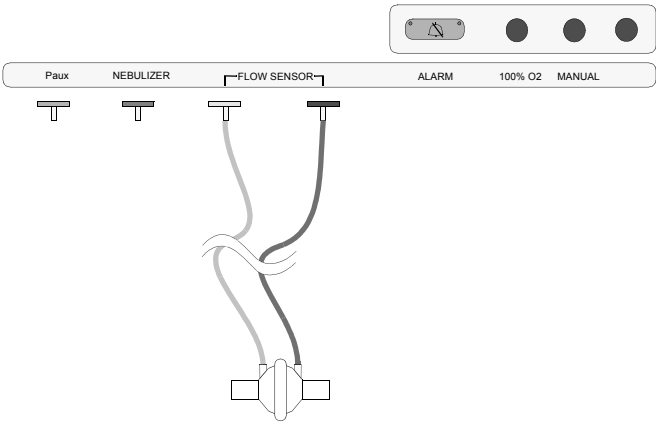

Figure 9-17. The Flow Sensor connected to the GALILEO
- 3. Connect a Flow Sensor (but without patient tubing) to the GALILEO. (Figure 9-17.)